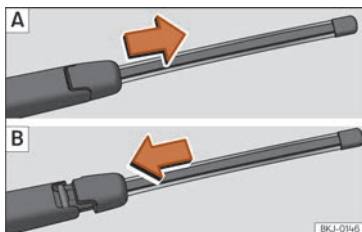

Fig. 84 Removing and fitting the rear window wiper blade.
- Slide the blade adapter in the direction of the arrow and remove the blade »» **Fig. 84 A**.
- Place the blade as shown in »» **Fig. 84 B** and slide the adapter along until it engages.